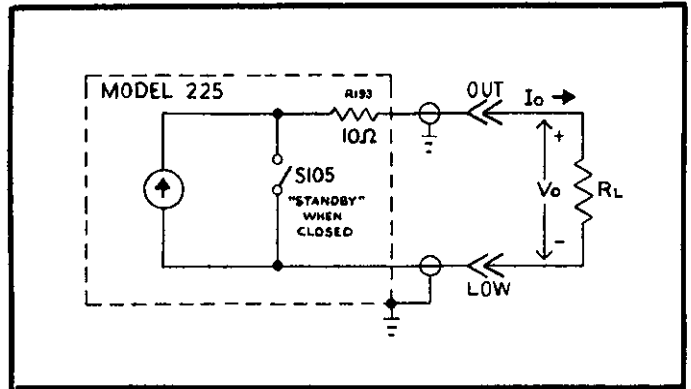

FIGURE 5. Resistive Load.
b. OUTPUT SELECTOR Switch (S105). This switch has four positions designated "-", "STANDBY", "STANDBY", and "+". The + and - positions set the output current polarity. The two "STANDBY" positions divert the output current as shown in Figure 5. The output load is not disconnected at any position of the switch. (The shunting effect should be considered, since a small voltage can be developed across the 10-milliohm shunt and therefore across the output terminal.)
1. Current Source. The instrument can be used as a current source with a resistive load as shown in Figure 5. In this case, the Model 225 delivers a current set by the front panel controls. The voltage developed across the load resistance R_L is $V_L = I_0 \times R_L$.
3-4. SWITCHING. The OUTPUT SELECTOR Switch S105 has four positions labeled "-", "STANDBY", "STANDBY", and "+". The "-" and "+" positions connect the internal circuitry such that the polarity of the current at the "OUT" terminal can be changed with respect to "LOW". This is accomplished by reversing the polarity of the voltage references since amplifier "A3" is a bipolar amplifier. The two "STANDBY" positions permit a change of polarity to be made without developing large transients. The "STANDBY" positions connect the high output to "LOW" through a 10 milliohm shunt as shown in Figure 5. Since the selected current will be shunted through the 10 milliohms, up to 10 millivolts can be developed between the "OUT" and "LOW" terminals with no load. Resistor R193 limits the voltage drop to 1 millivolt for a 1 ohm load.